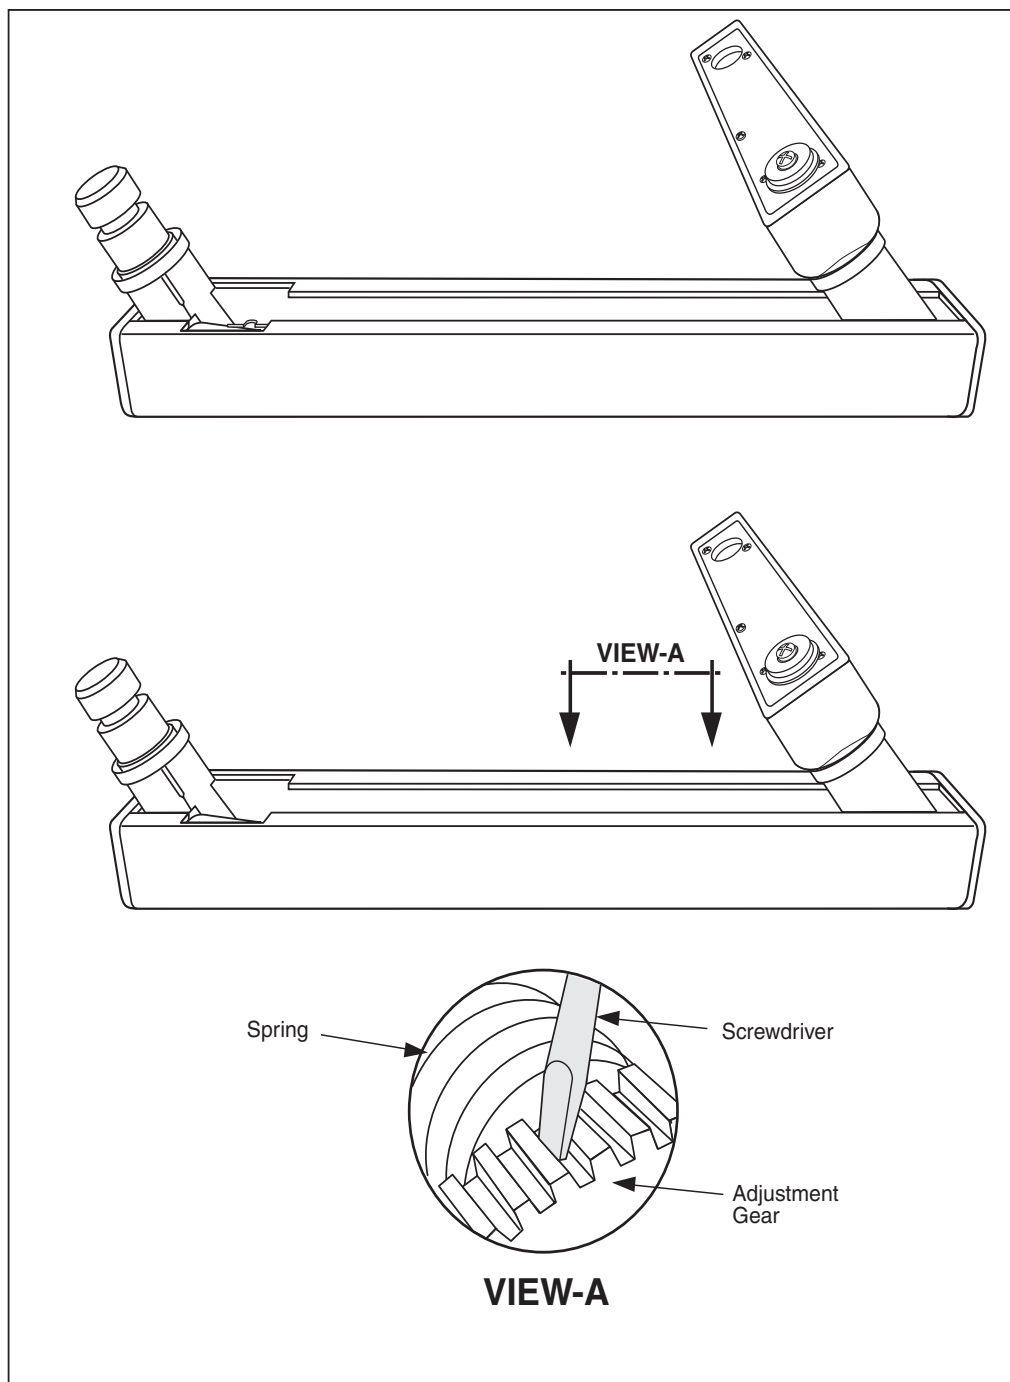

Figure 6-7-1 Arm Assembly Tension Adjustment
2. While wearing protective eyewear, use a large flat head screwdriver to rotate the brass adjustment gear as shown in Figure 6-7-1. Rotate the adjustment gear in the clockwise direction to increase spring tension and counterclockwise to decrease spring tension.